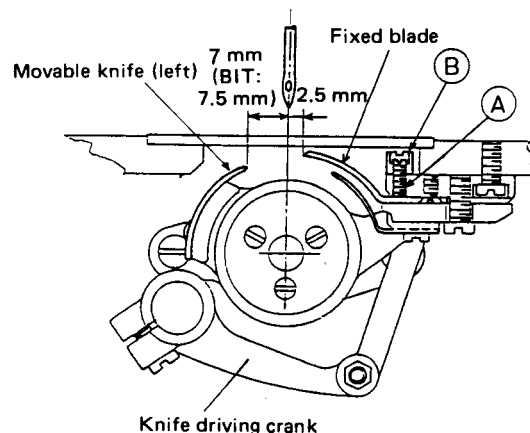

Fig. 12
- ① Fig. 12 shows the standard state.